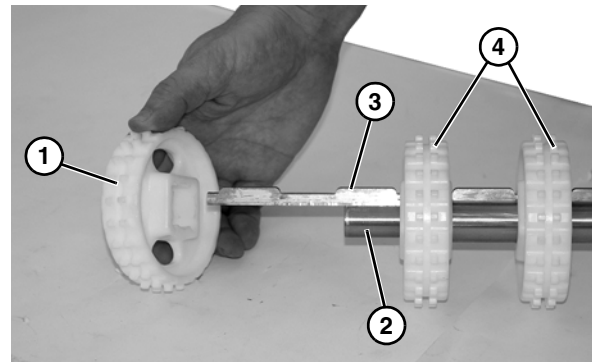

Figure 56
17. Slide entire sprocket assembly slightly outward, and remove the first sprocket (**Figure 56, item 1**) off the drive spindle (**Figure 56, item 2**) and alignment bar (**Figure 56, item 3**).
18. Remove remaining sprockets (**Figure 56, item 4**) off the alignment bar as you slide entire assembly off the drive spindle.
20. Install second sprocket and subsequent sprockets (**Figure 56, item 4**) one by one, while sliding entire assembly onto alignment bar (**Figure 56, item 3**) and spindle (**Figure 56, item 2**).